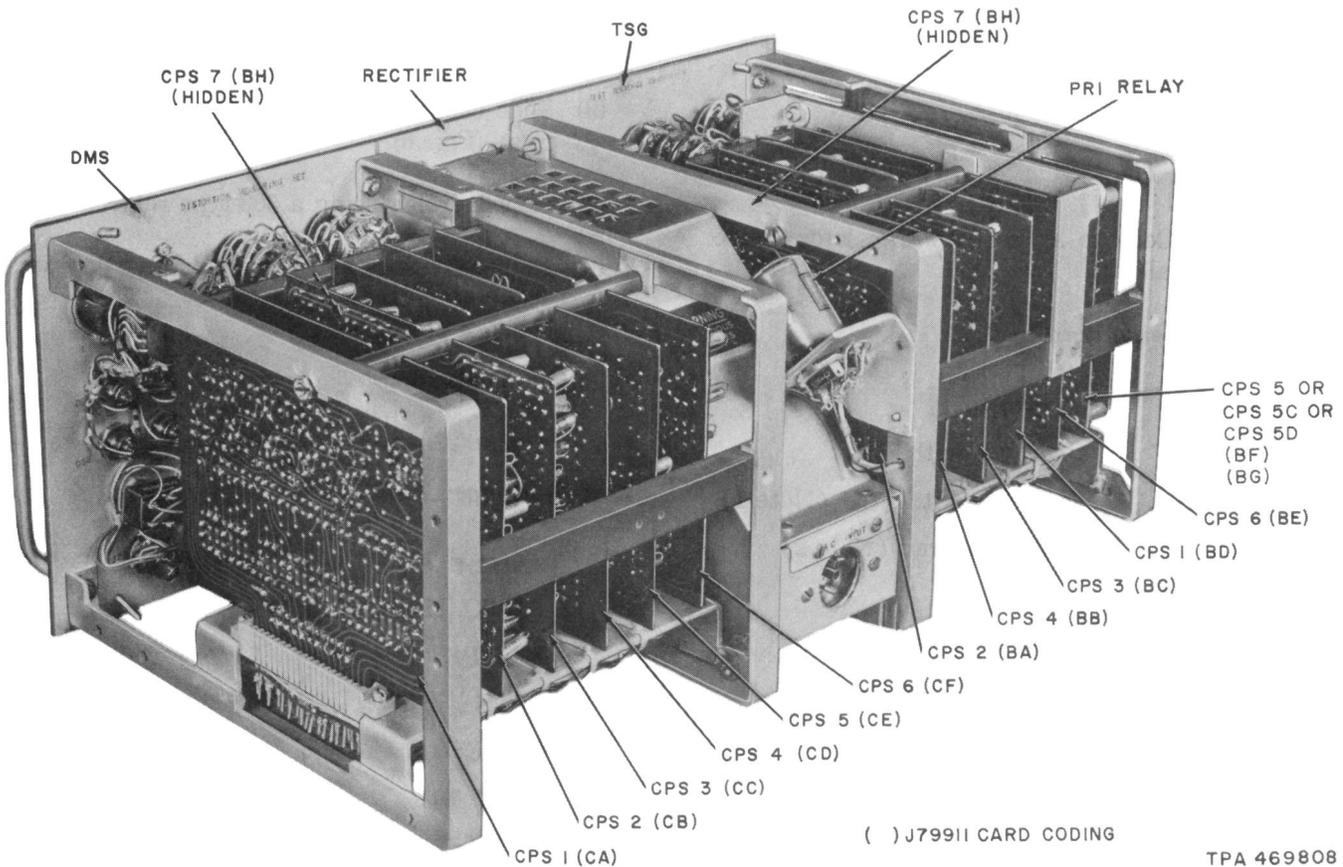

Fig. 6—J7991A-1 Data Test Set—Location of Cords
- (1) Turn off rectifier and remove power cord.
- (2) Loosen the six captive screws (911A) or four captive screws (911B) but do not remove them.
- (3) Slide chassis out of case, exposing the PR1 relay (Fig. 6).
- (4) Replace relay using a 303-type relay.
- (5) Replace chassis and tighten captive screws.
- (6) Replace power cord.
4.06 The location of cards is shown in Fig. 6. For ordering information on the cards refer to Section 807-462-152. For detailed operation, refer to the following circuit descriptions (CDs) and schematic drawings (SDs):